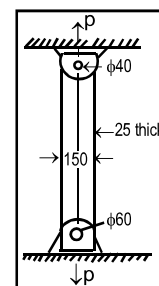

Fig. 1
1. (a) Describe the design procedure of a machine. Illustrate your answer with suitable example. (8)
- (b) The link shown in fig. 1 is subjected to a completely reversed load of 80 kN. Determine the minimum factor of safety. The material has an endurance limit of 180 N/mm². Assume: (i) Theoretical stress concentration factor at 60 mm diameter hole as 5 and that at 40 mm diameter hole as 3, (ii) Notch sensitivity = 0.8, (iii) Surface finish factor = 0.85, (iv) Size factor = 0.9. Is this factor of safety is sufficient? If not what changes would you suggest in the link? (12)